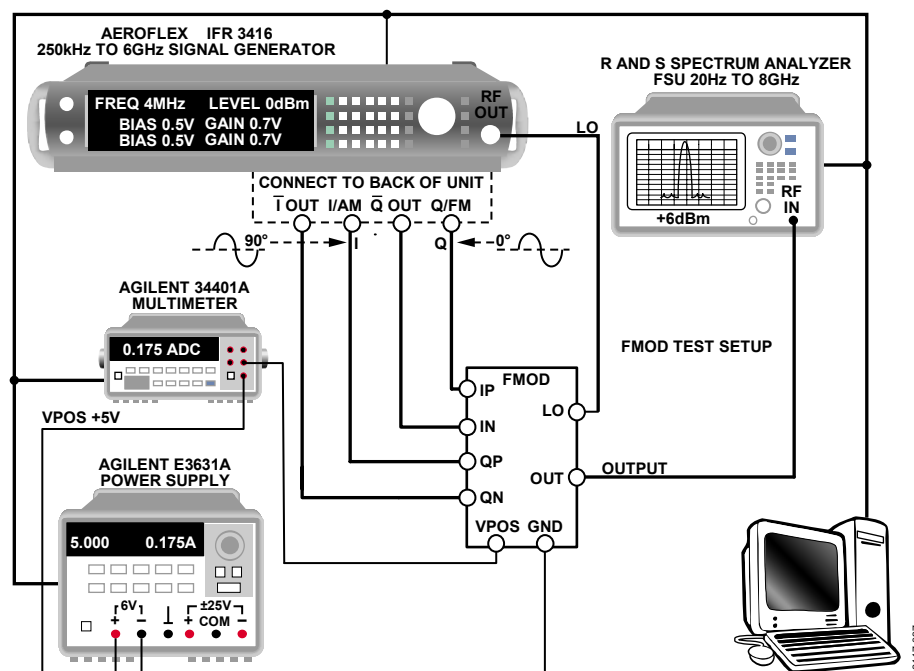

Figure 38. Characterization Bench Setup
The primary setup used to characterize the ADL5370 is shown in Figure 38. This setup was used to evaluate the product as a single-sideband modulator. The Aeroflex signal generator supplied the local oscillator (LO) and differential I and Q baseband signals to the device under test, DUT. The typical LO drive was 0 dBm. The I channel is driven by a sine wave, and the Q channel is driven by a cosine wave. The lower sideband is the single sideband (SSB) output.